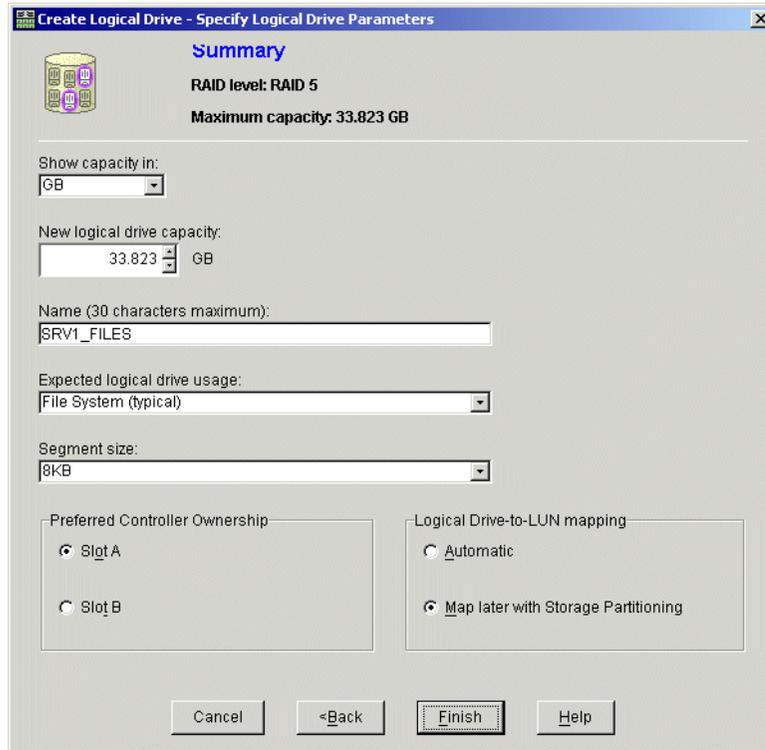

Figure 5-23 Create Logical Drive - Specify Logical Drive Parameters window
5. The Create Logical Drive - Specify Logical Drive Parameters window is displayed (see Figure 5-23):